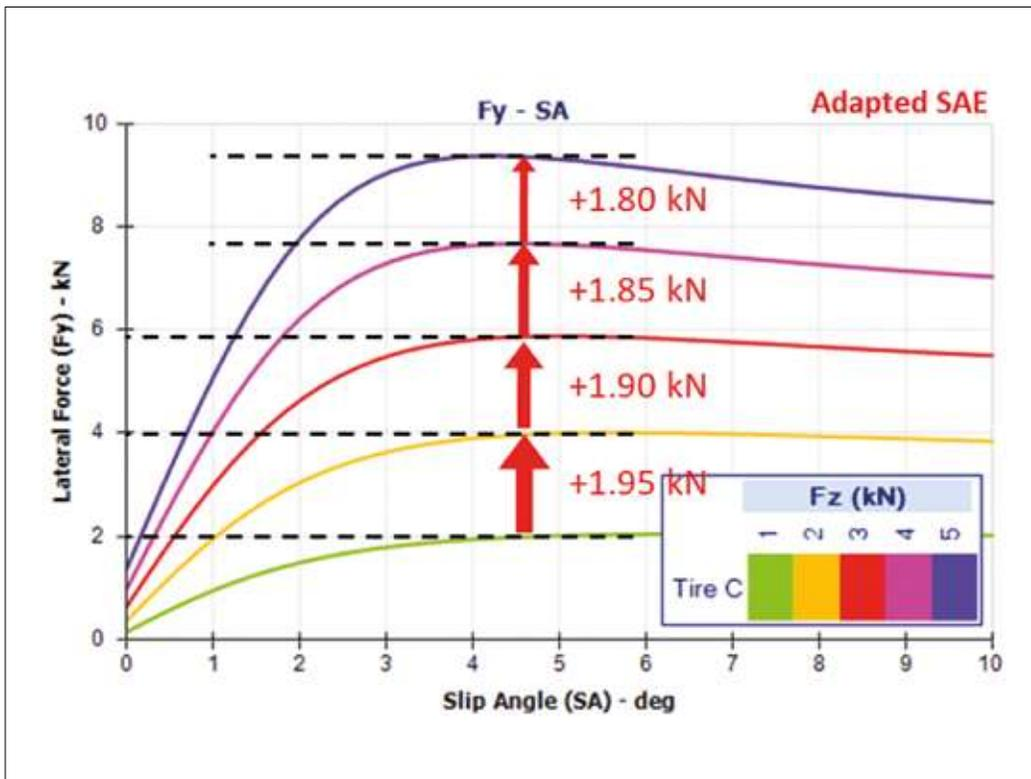
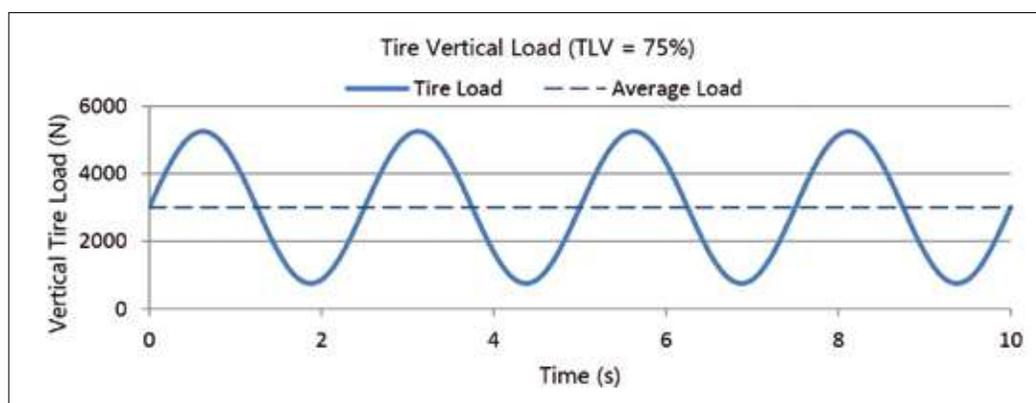

Figure 1: This shows lateral force (F_y) vs slip angle (SA) for five different vertical loads (F_z). It is the classic F_y -SA tyre chart
Figure 3: Load on a racing tyre for a sinusoidal profile. Variation is shown as the blue wavy line, with the average running through it
As previously mentioned, tyre comfort is important for mechanical grip. Mechanical grip refers to the efficiency (friction factor) of the tyre. **Figure 1** shows a typical lateral force (F_y) versus slip angle (SA) curve, for five different vertical loads at zero degrees of camber, and a constant pressure. When testing a tyre, a typical chart used to understand the tyre's lateral performance is an F_y - SA ,
In Figure 1 we have plotted the same tyre at five different conditions (five different loads), and for each increase in vertical load we measure the lateral force. What we can observe is that as we increase the
Table 1: Table representation of Figure 1
Table 1 shows the same as in Figure 1. If we display it in a table, we can see more clearly that the friction coefficient is decreasing as we increase the load. The friction coefficient is calculated by dividing the lateral force per the corresponding vertical load (column two divided by column one).
you lose from the decreased load at a higher factor. We can see the size of this effect if we have a good idea of the lateral friction factor of the tyre at different loads (as in Figure 1). In **Figure 3** we see a possible time-based load variation on a race tyre. In the plot we have a static reference load (average load) of 3000N and we are varying the load by 75 per cent (750N to 5250N) either way.